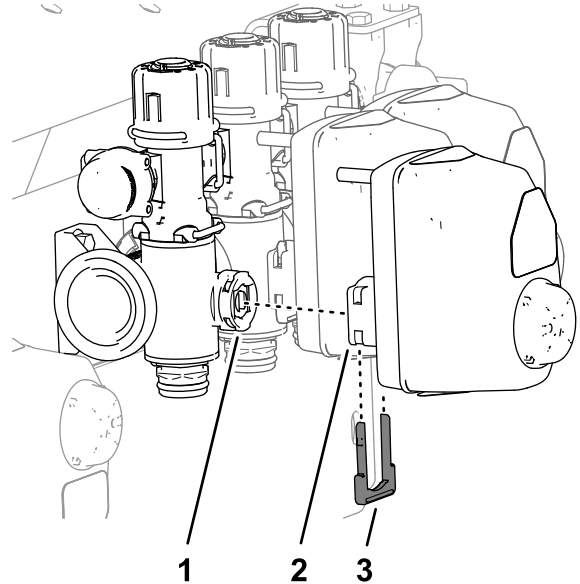

Figure 48
- Remove the retainer that secures the actuator to the manifold valve of the section valve assembly (Figure 48).
- Remove the actuator from the manifold valve (Figure 48).